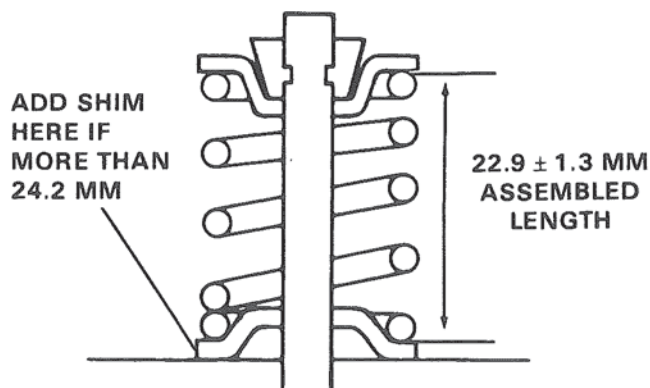

Figure 34. Checking Assembled Spring Height.
5. Check spring height. Figure 34.